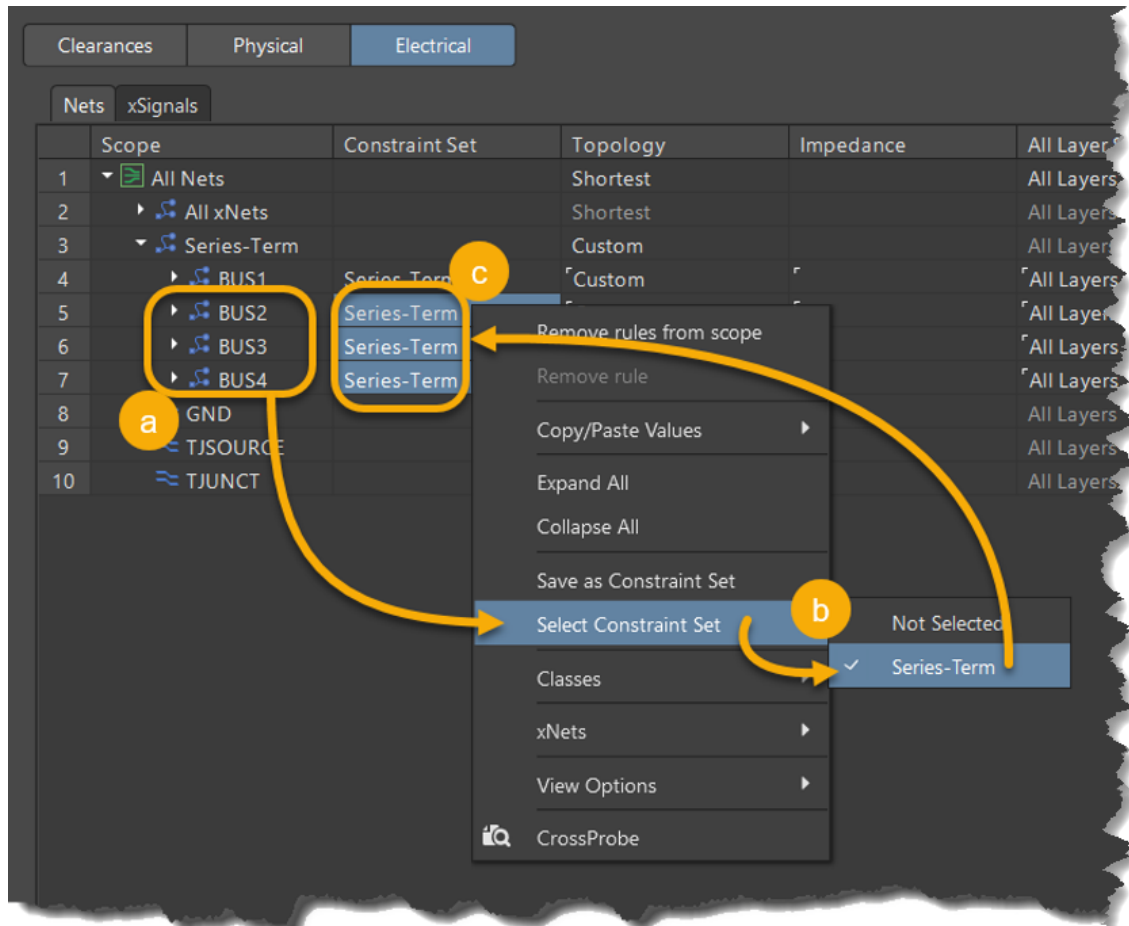

Figure 10. Update BS2...Bus4 with a Constraint Set
23. Next, let's reuse the constraint set for the three xNets Bus2...Bus4, Figure 10.